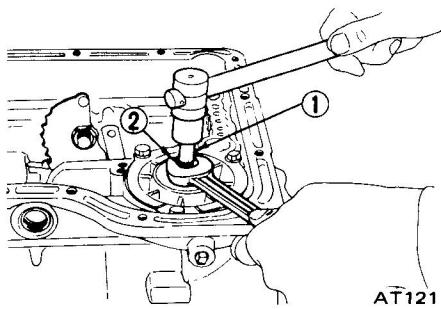

Fig. AT-55 Loosening band servo
6. Loosen lock nut ② on piston stem ① as shown in Figure AT-55. Then tighten piston stem in order to prevent front clutch drum down when oil pump is withdrawn.